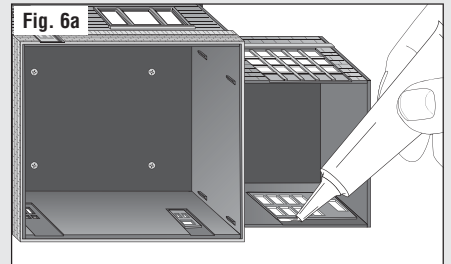

Fig. 6a
- Place Building on its front face with the bottom toward you (Fig. 6a).
- Dab a small amount of glue around edges of window material (Fig. 6a).